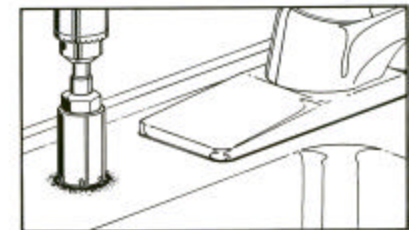

Figure 6: Porcelain Cutter Kit P/N 36201003
1. **CAUTION:** A heavy duty, variable speed drill motor with a spring-loaded porcelain drill set (Figure 6.B.) is strongly recommended for this procedure.
CAUTION: The plastic sleeve supplied on pilot drill (Figure 6.A) is to be positioned on drill bit against drill chuck. This prevents chuck from contacting porcelain after pilot hole has been completed.
Using carbide tipped bit with plastic sleeve (Figure 6.A.), drill pilot hole completely through porcelain and metal underneath.
Place spring-loaded porcelain saw (Figure 6.B.) into drill chuck. Make sure pilot guide is inserted tightly. Insert pilot guide into pilot hole. Push down gently on drill motor to apply light pressure to porcelain surface. Start drill motor turning as slowly as possible.
3. Place finish hole saw (Figure 6.C.) into drill chuck. Make sure pilot guide is inserted tightly. Insert pilot guide into pilot hole. Begin cut using a slow speed and light pressure until porcelain (inside ring cut in Step 2) has been penetrated to material underneath.